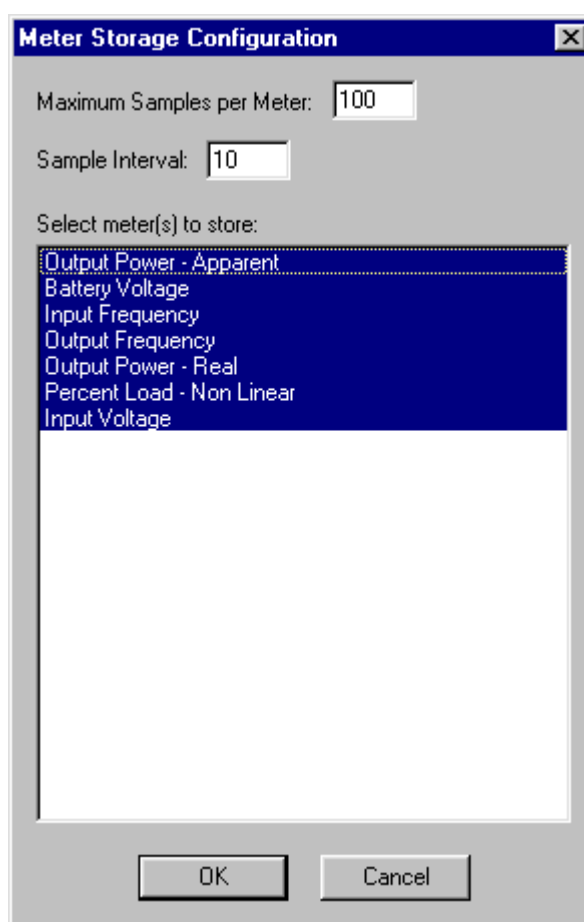

Figure 48. Meter Storage Configuration Dialog Box
4. In the Meter Storage Configuration dialog box, select the meters to be sampled and stored (see Figure 48).